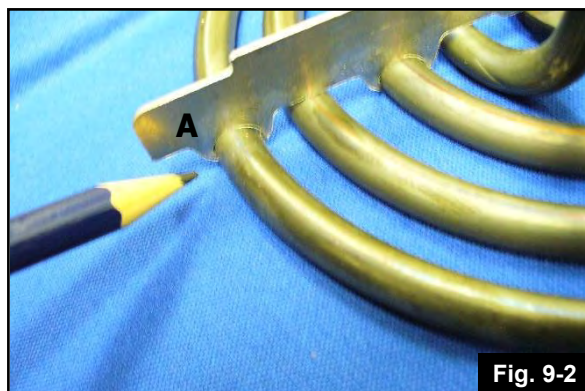

Fig. 9-2
2. Mark notches A, B on spider arms 2 & 3 and notch C on inner spider arm 3 (Fig. 9-2, 9-3 & 9-4).